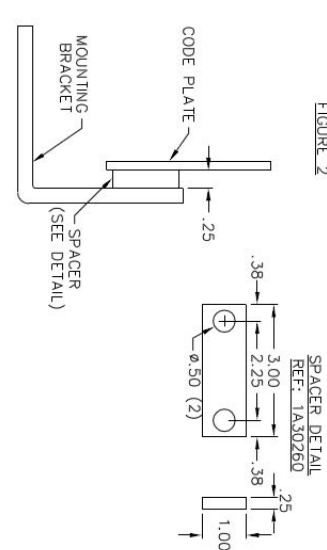

FIGURE 4
2. VAC-CLAD MOUNTS PLATES WITH .344/.334 DIA HOLE TO LEFT VC-W MOUNTS PLATES WITH .344x.469 RD END SLOT TO RIGHT (LEFT PLATE IS LEFT AS VIEWED FROM FRONT OF CELL FOR BOTH). .25 THICK SPACERS MUST BE PLACED BETWEEN CODE PLATE AND AND MOUNTING PLATE FOR 50 VCP-W350 AND 150 VCP-W1000, 50VCP-63KA, 150VCP-63KA, 50VCP-WG50, 50VCP-WG63, 150VCP-WG50 AND 150VCP-WG63 ONLY. (SEE FIGURE 4).